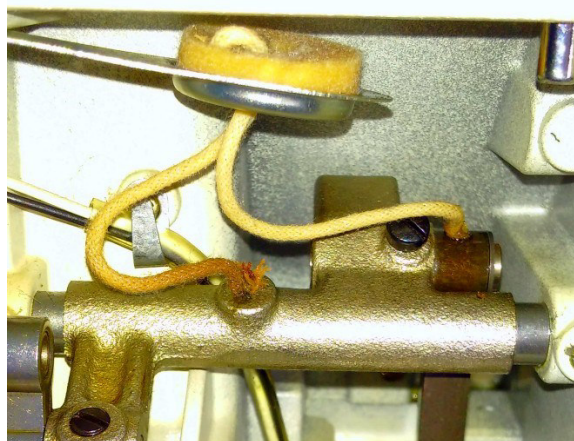

Figure 2. Felt oil pad and cotton wicks to distribute the oil
- **wicks** – machines are equipped with oil sumps or felt oil pads. The oil is distribute by help of cotton wicks (cords/ropes), (see Fig.2).